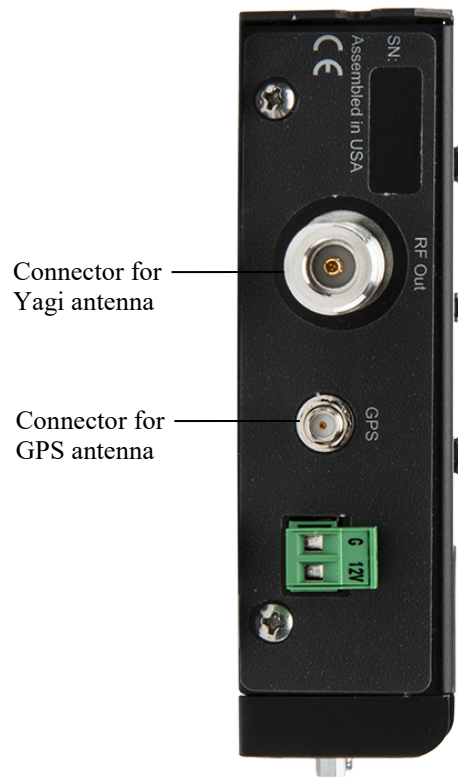
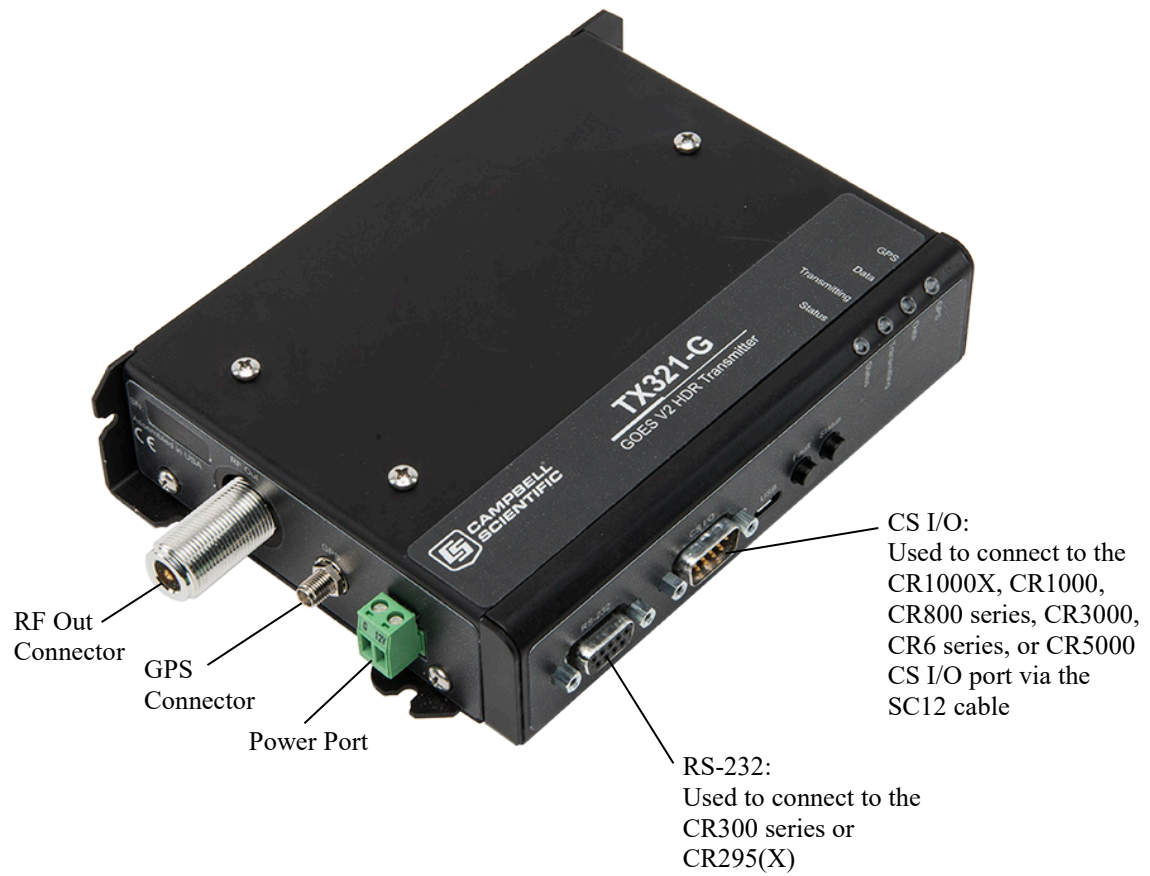
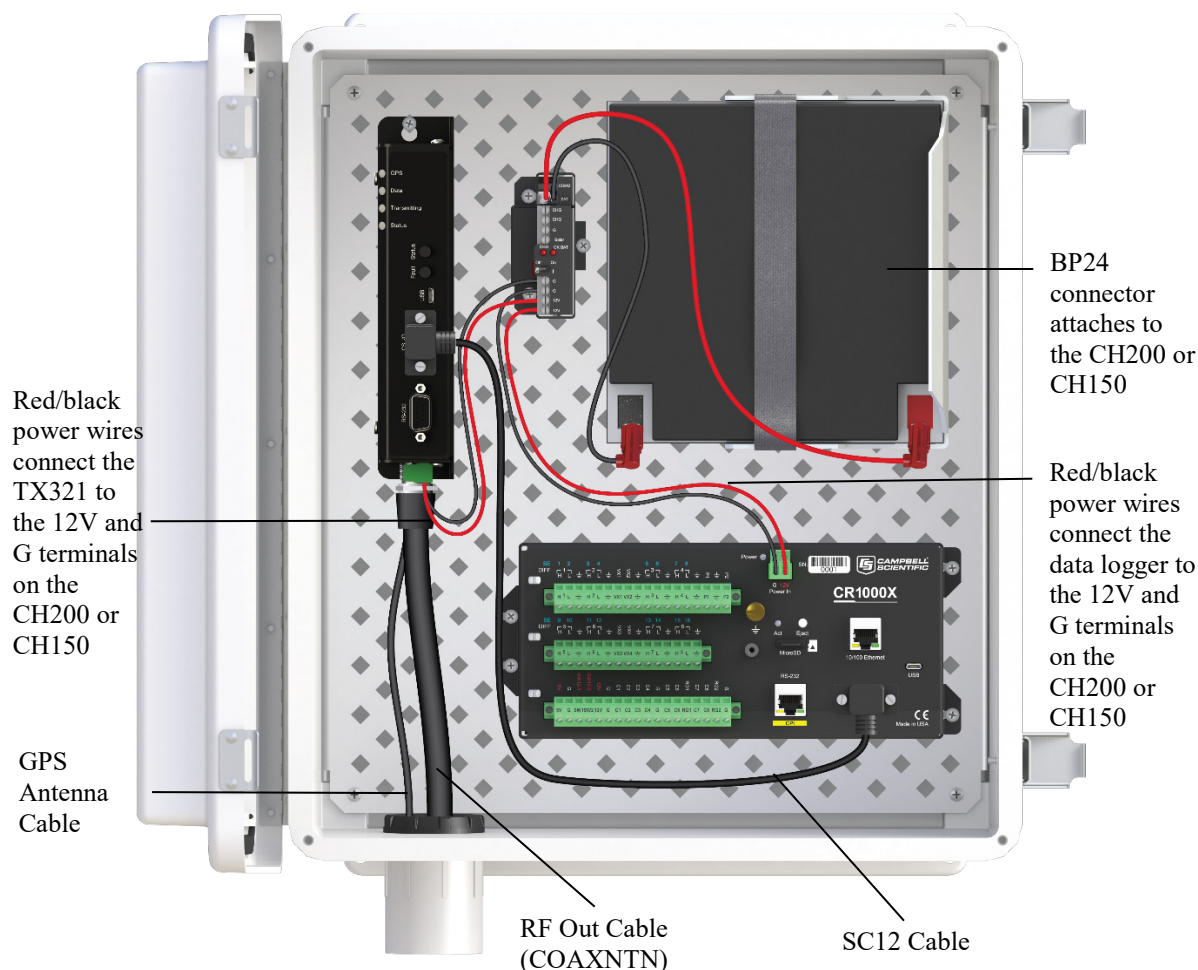

FIGURE 4-7. Antenna connectors
FIGURE 4-8. TX321 connectors
FIGURE 4-9. DCP enclosure
Refer to Section 4.1.1, *Accessing DevConfig* (p. 2), for information about accessing *DevConfig*. The transmitter internal GPS can be used to acquire azimuth and elevation information. To use the internal GPS device, connect the GPS antenna (see FIGURE 4-7). The information is listed on the GPS tab of *DevConfig*.
6. Mount the TX321, the CH150 or CH200 regulator, the BP12 or BP24 battery pack, and the data logger to the backplate of an ENC16/18 enclosure (see FIGURE 4-9).
8. Connect the COAXNTN cable to the Yagi antenna. Route the COAXNTN cable through the enclosure conduit and connect it to the TX321 connector labeled RF Out (see FIGURE 4-7 and FIGURE 4-8).
9. Connect the TNC connector of the GPS antenna cable to the GPS antenna. Route the GPS antenna cable through the enclosure conduit and connect it to the TX321 connector labeled GPS (see FIGURE 4-7 and FIGURE 4-8).
10. Wire the TX321, the CH150 or CH200 regulator, the BP12 or BP24 battery, and the data logger according to FIGURE 4-8 and FIGURE 4-9.